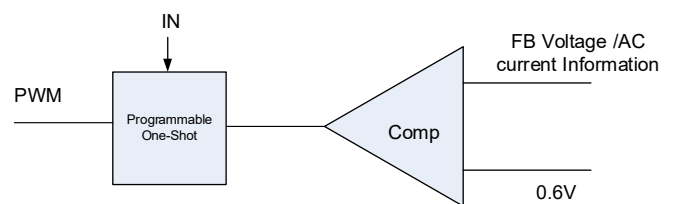

Figure 2. Simplified Control Schematic of AOZ1270AQI
The simplified control schematic is shown in Figure 2. The high-side switch on-time is determined solely by a one-shot whose pulse width can be programmed by one external resistor and is inversely proportional to input voltage (IN). The one-shot is triggered when the internal 0.6V is higher than the combined information of FB voltage and the AC current information of inductor, which is processed and obtained through the sensed lower-side MOSFET current once it turns-on. The added AC current information can help the stability of constant-on time control even with pure ceramic output capacitors, which have very low ESR. The AC current information has no DC offset, which does not cause offset with output load change, which is fundamentally different from other V^2 constant-on time control schemes.